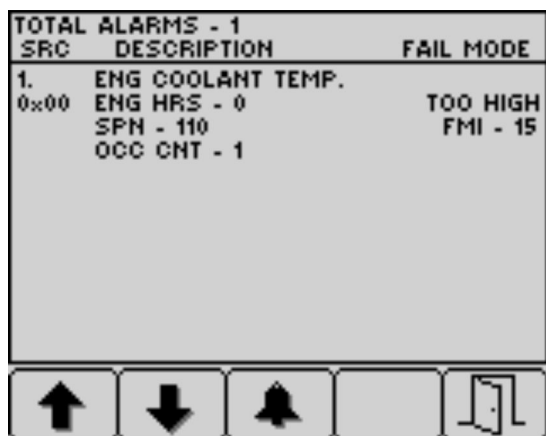

Figure 36
4. Press button 5 to exit the active fault list and return to the home screen (Figure 36).
5. Press button 5 to exit the active fault list and return to the home screen; refer to Figure 36 in Engine Advisories Messages (page 32).